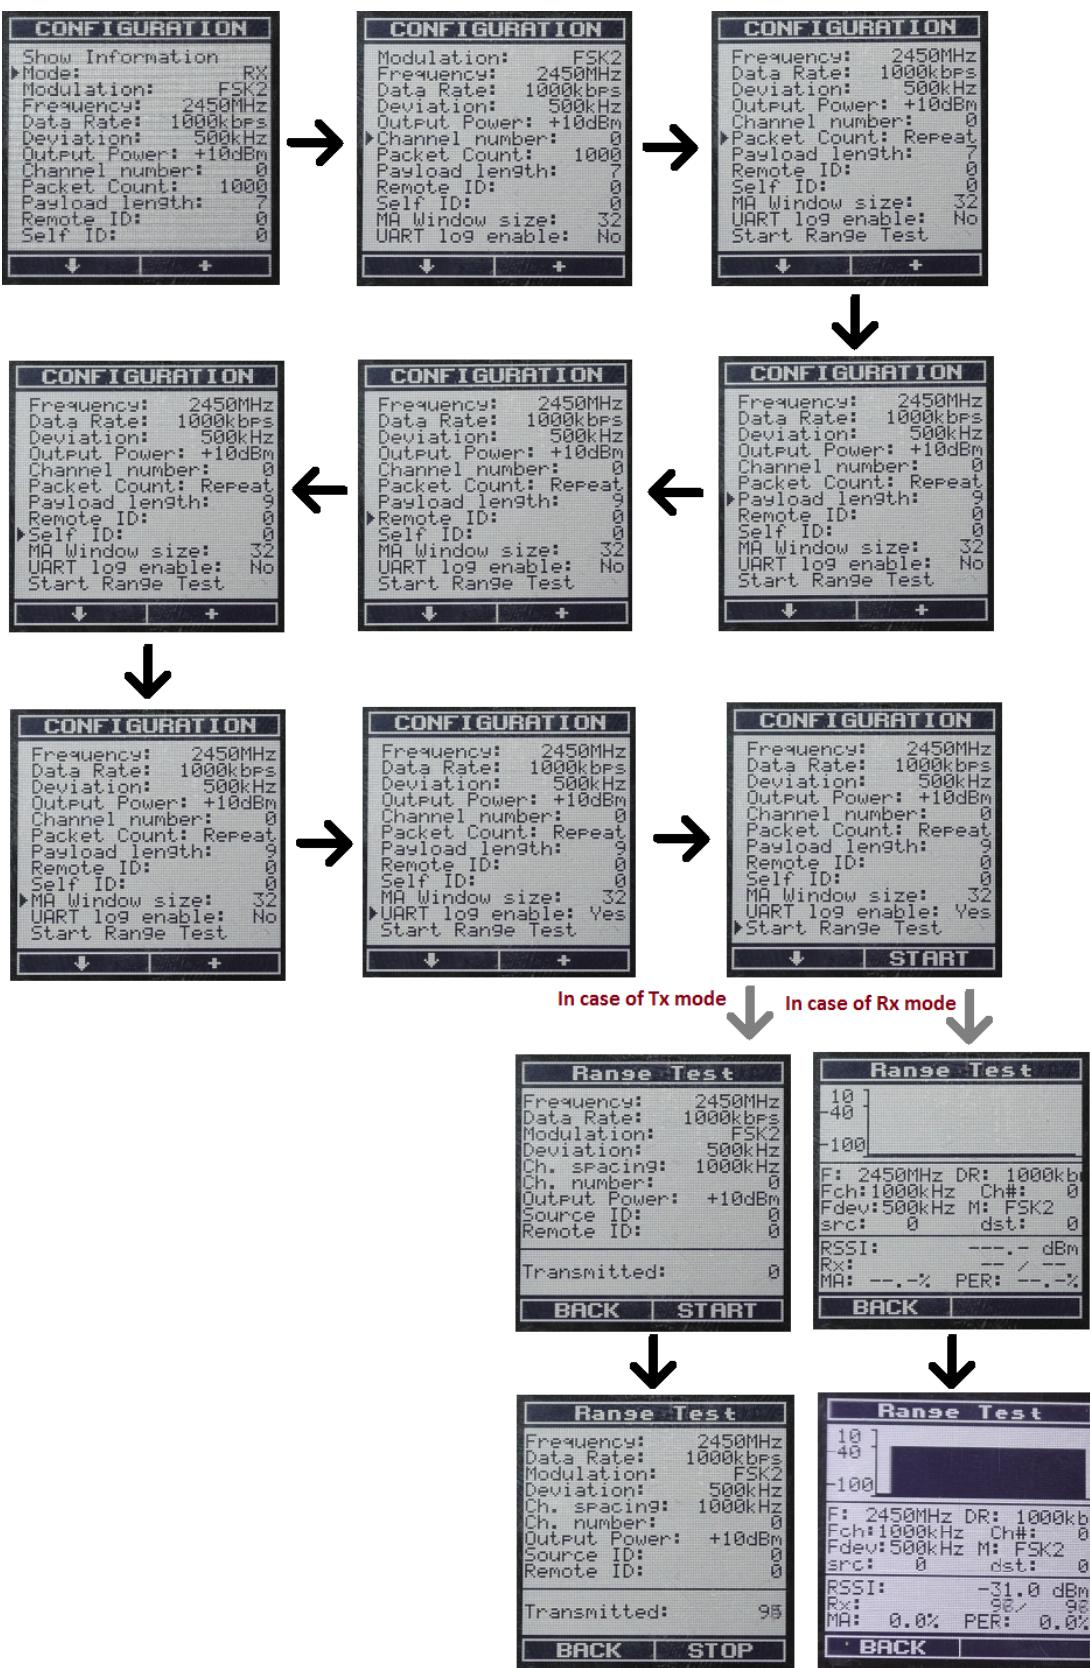

Figure 3.3. Configure the Range Test
5. Configure the range test through the menu items, and start Start Range Test on both of the devices. (See Figure 3.3 Configure the Range Test on page 12.) It is important to set the self- and remote-IDs of the participants correctly.